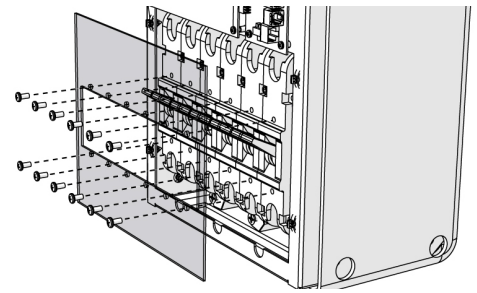

Figure 3. Lexan breaker cover
Step 1. Flip up the front hinged lid, then remove the lexan breaker cover by removing the phillips-head screws as shown in Fig. 3.